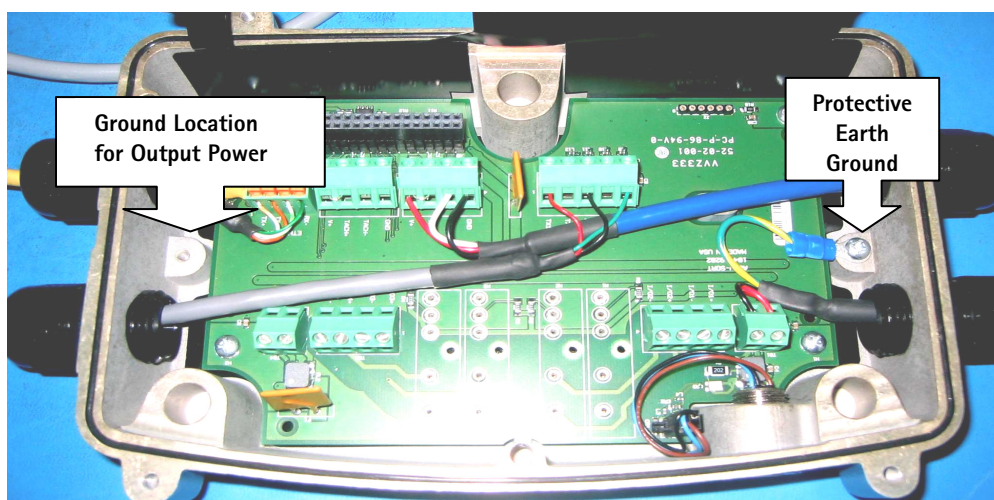

Figure 4-3: Example of Proper Wiring
- Ground the mounting structure to protective earth (PE) ground. *(See Figure 4-3.)*
- Ground the wiring base to protective earth (PE) ground.
IMPORTANT: Ground the wiring base to safety ground (protective earth ground (PE)) as shown in *Figure 4-3*. Reference wiring recommendations for safety ground. (See *Table 4-1*.)
4. The proper location for ground is shown on *Figure 4-3*.
5. Wiring **MUST** be grounded at both ends of the INPUT POWER and OUTPUT POWER connection. (See Figure 4-3.)